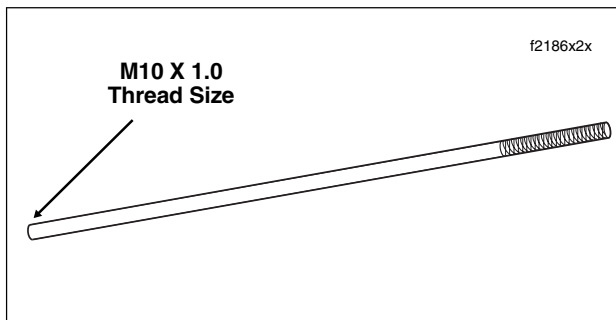
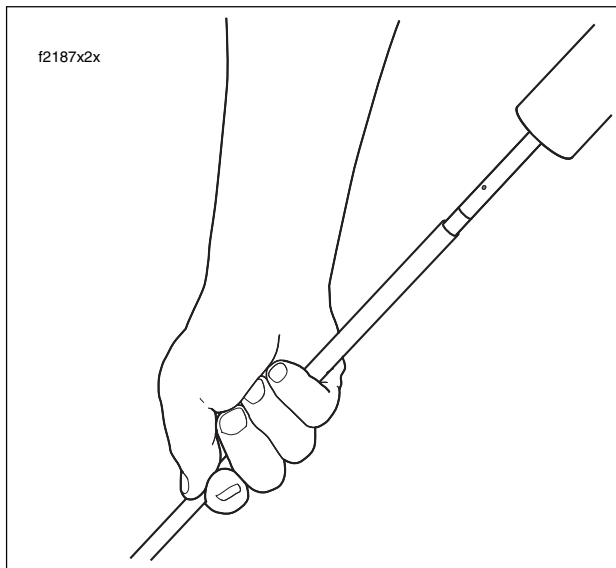

Figure 2-75. Damper Rod Extension Tool
Figure 2-76. Pump Damper Rod Extension Tool
13. Obtain damper rod extension tool shown in Figure 2-75. Thread extension tool onto end of damper rod. Turn fork assembly upside down over drain pan and slowly pump damper rod at least twenty times until rod moves freely. See Figure 2-76.
- a. Obtain damper rod extension tool shown in Figure 2-75. Thread extension tool onto end of damper rod.